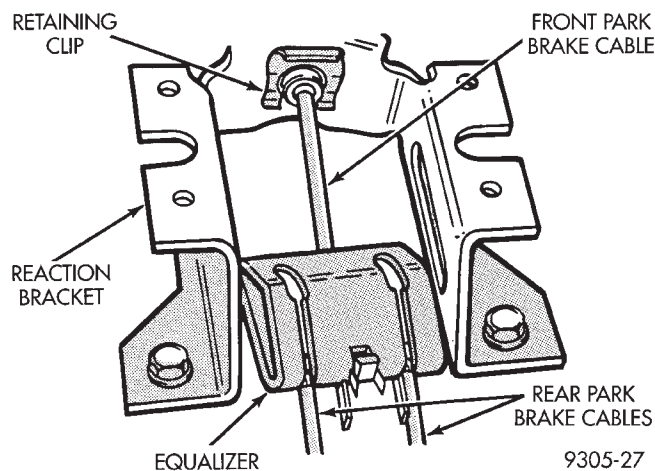

Fig. 109 Front Park Brake Cable Connection At Equalizer
(7) Reload the self adjuster mechanism of the park brake pedal. Use the procedure as described in Reloading Self Adjuster in Service Procedures Section in this group of the service manual.
(8) Remove front park brake cable from park brake cable equalizer (Fig. 109).